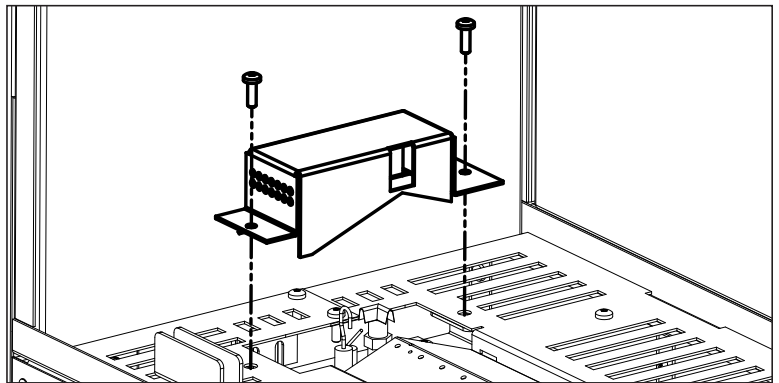
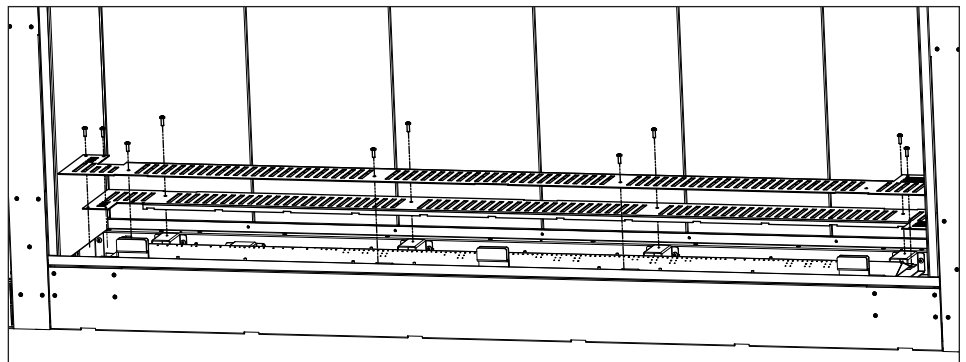

Figure 6: Pilot Shield Removal
Figure 7: Media Tray Removal
3. Remove the Pilot Shield (Figure 6) and Media Tray (Figure 7)